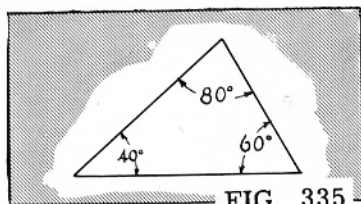

FIG. 335
1. The sum of three angles in a triangle always equals 180° (Fig. 335). Therefore, if two angles are known, the third can be found.